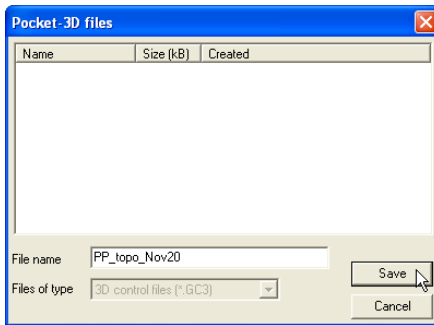

Figure 9-25. Save File to Pocket-3D Controller
3. On the *Pocket-3D files* dialog box, do one of the following and click **Save** (Figure 9-25):